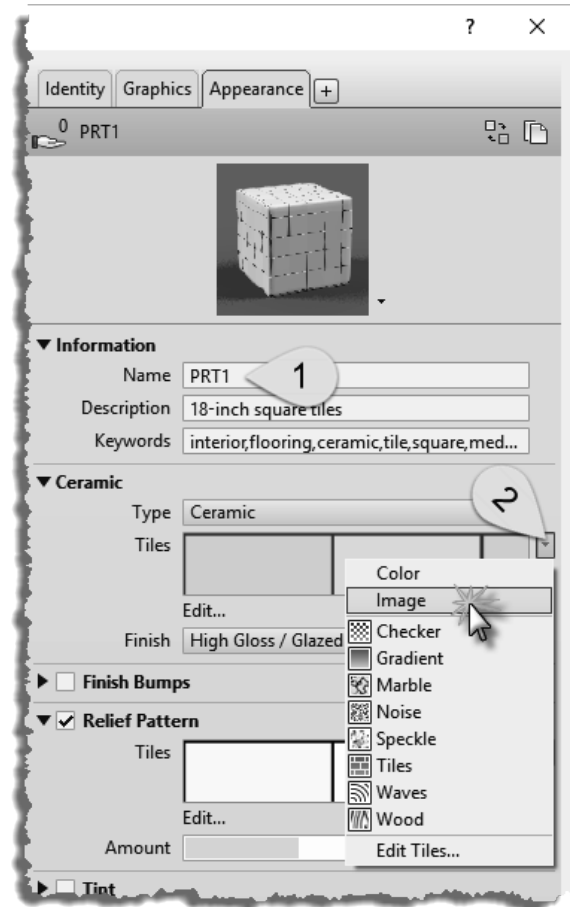

FIGURE 4-4.17 Appearance tab
67. Back in the *Material Browser*, with PRT1 selected, adjust the *Description* as shown in Figure 4-4.17.
68. Select the down-arrow to the right of the *Tiles* preview and select **Image** (Figure 4-4.17).